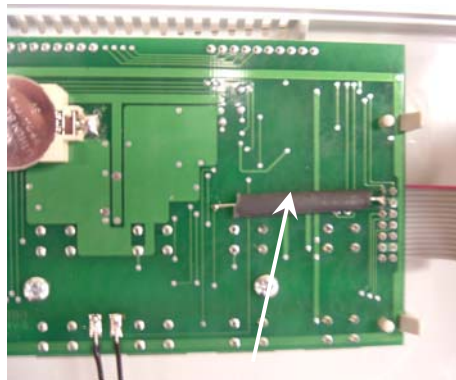

fig.1 – Additional resistor on SmartCom lid pcb
To rectify this, an additional two resistors (see fig 1 & 2) have been included on the pcb of the SmartCom to restrict this power fluctuation.
5. Locate and position the new Brahma controller (fig.1) onto the removable bracket plate and fix using the screws from step 4.